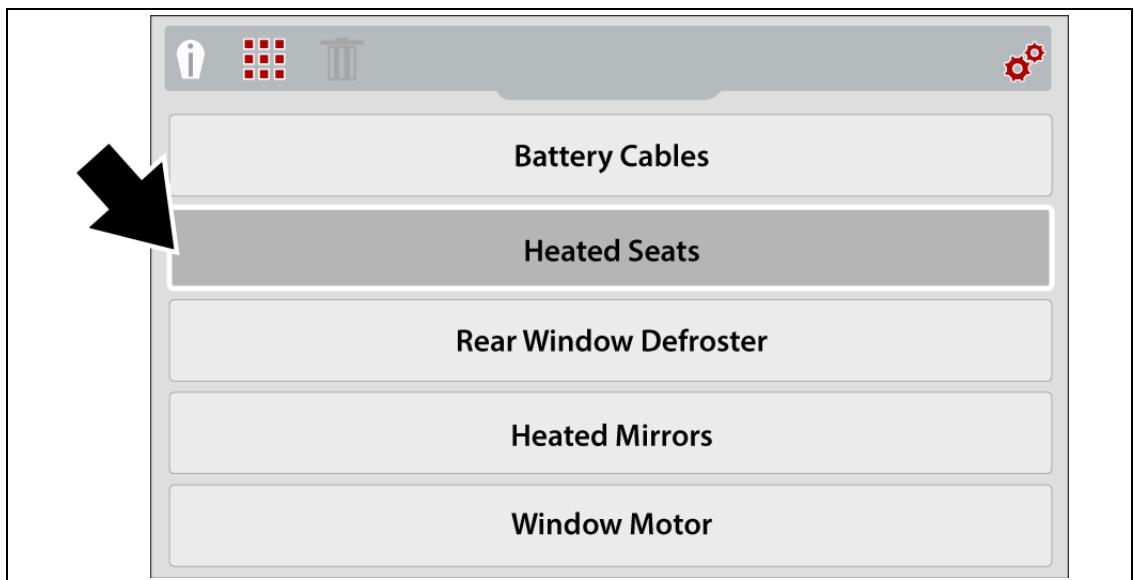

Figure 7-3 Component Menu
- Select an option from the component menu (Figure 7-3), then press the **Y** button to view the selection results. Additional sub-menu selections may be required depending on the selection.